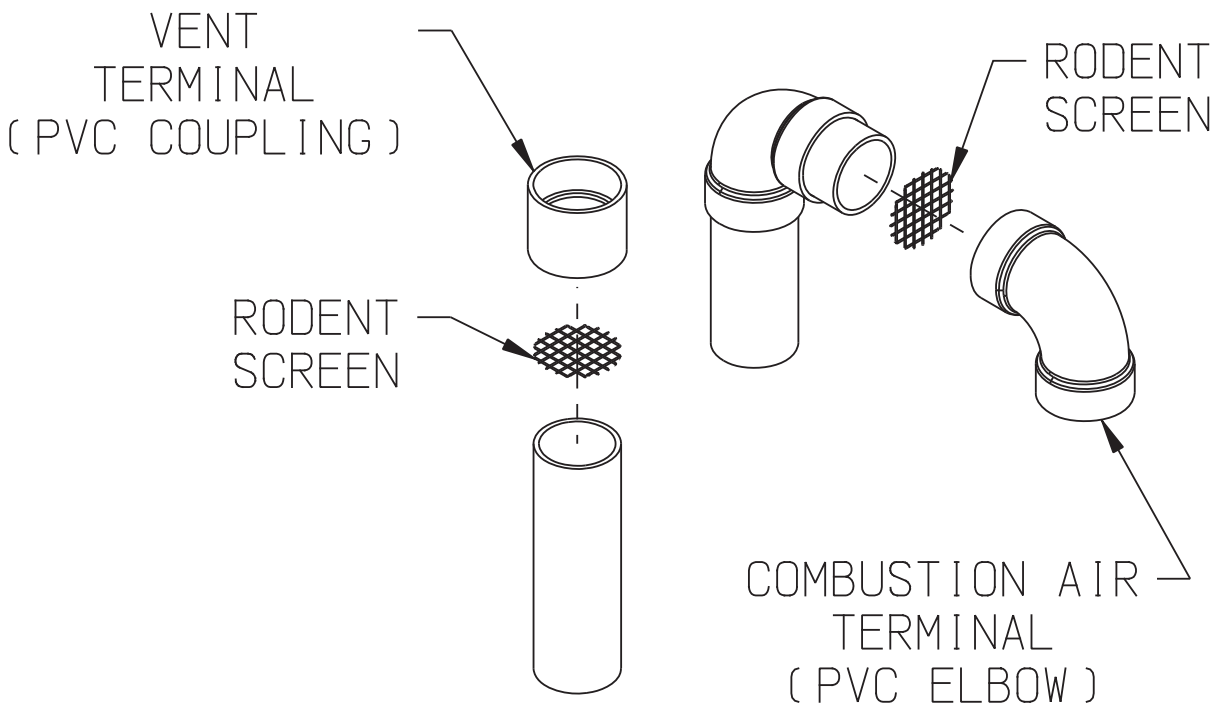

FIGURE 7.29: INSTALLATION OF STANDARD VERTICAL TERMINALS
- a. See Figure 7.29 for the proper orientation of twin pipe vertical terminals.
- c. A 180° bend (or two 90° elbows) are installed on the top of the air intake pipe. If two 90° elbows are used, the rodent screen provided can be installed between them (Figure 7.29). If a 180° bend is used, install the rodent screen in the open side of the bend, using a ring made of PVC pipe. If desired, the termination fittings can be attached to the end of the vent and/or intake pipes with field supplied stainless steel screws so that they can be later removed for cleaning and inspection. If this is done, drill a clearance hole in these fittings and a tap hole in the end of the vent/intake pipes to accept these screws.